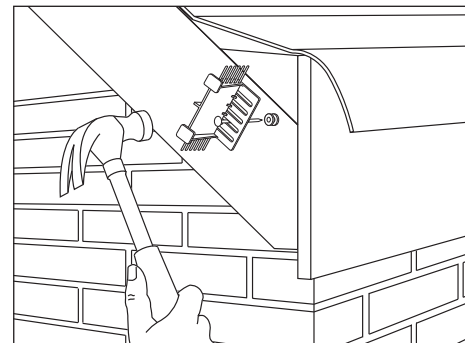

Fig. 3 – Mechanically fix starter unit
- 8 Once removed, re-locate starter insert in marked position and mechanically fix through spacer supplied, trapping between starter insert and gable wall or bargeboard (Fig. 3).